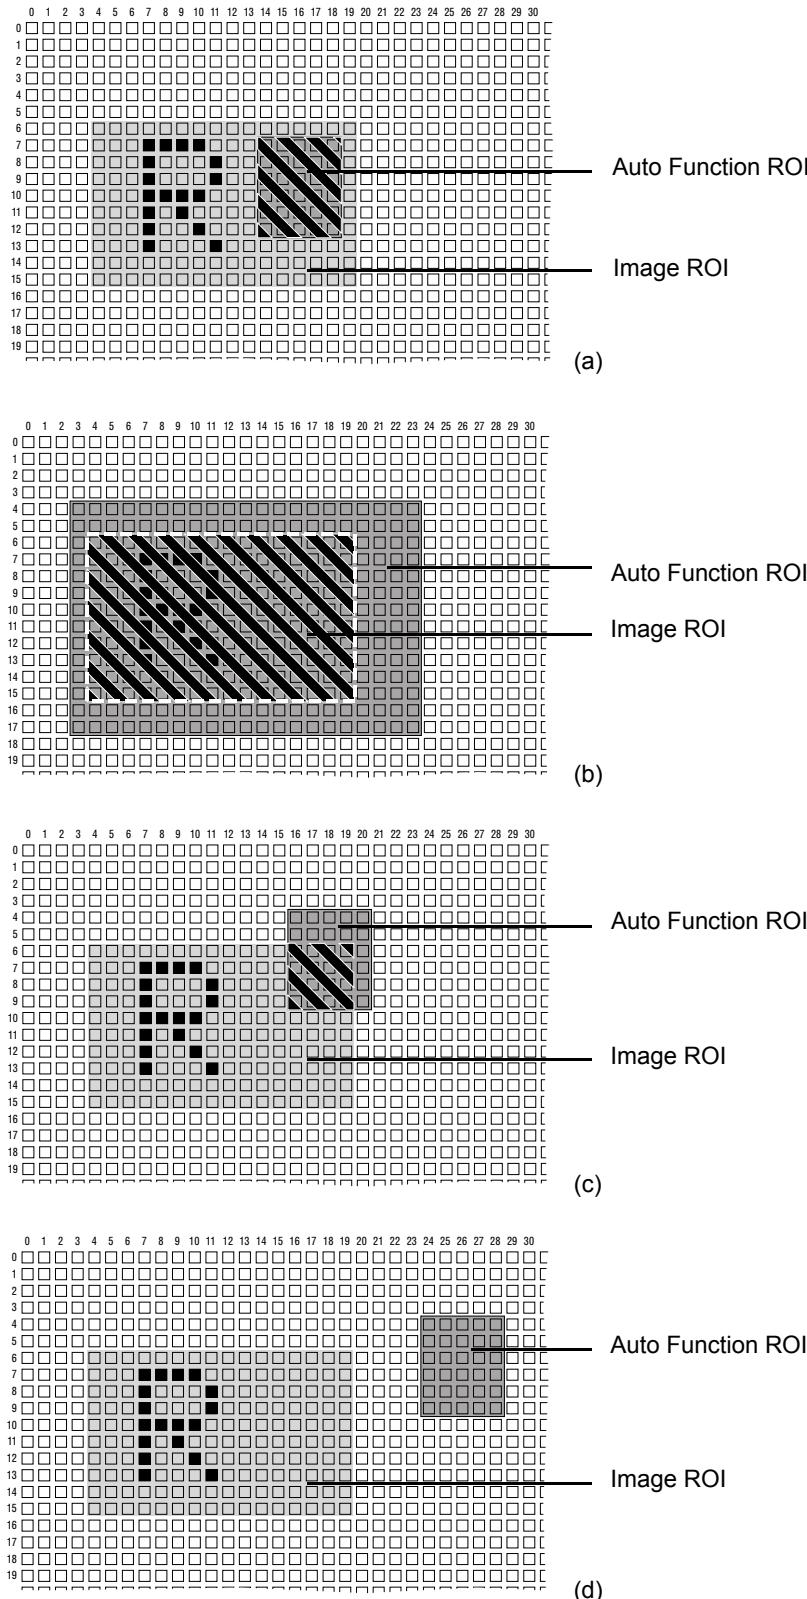

Fig. 110: Various Degrees of Overlap Between the Auto Function ROI and the Image ROI
Different degrees of overlap are illustrated in Figure 110. The hatched areas in the figure indicate areas of overlap.
- If the Auto Function ROI is completely included in the Image ROI (see (a) in Figure 110), the pixel data from the Auto Function ROI will be used to control the image property.
- If the Image ROI is completely included in the Auto Function ROI (see (b) in Figure 110), only the pixel data from the Image ROI will be used to control the image property.
- If the Image ROI only partially overlaps the Auto Function ROI (see (c) in Figure 110), only the pixel data from the area of partial overlap will be used to control the image property.
- If the Auto Function ROI does not overlap the Image ROI (see (d) in Figure 110), the Auto Function will **not** or only to a **limited** degree control the image property. For details, see the sections below, describing the individual auto functions.